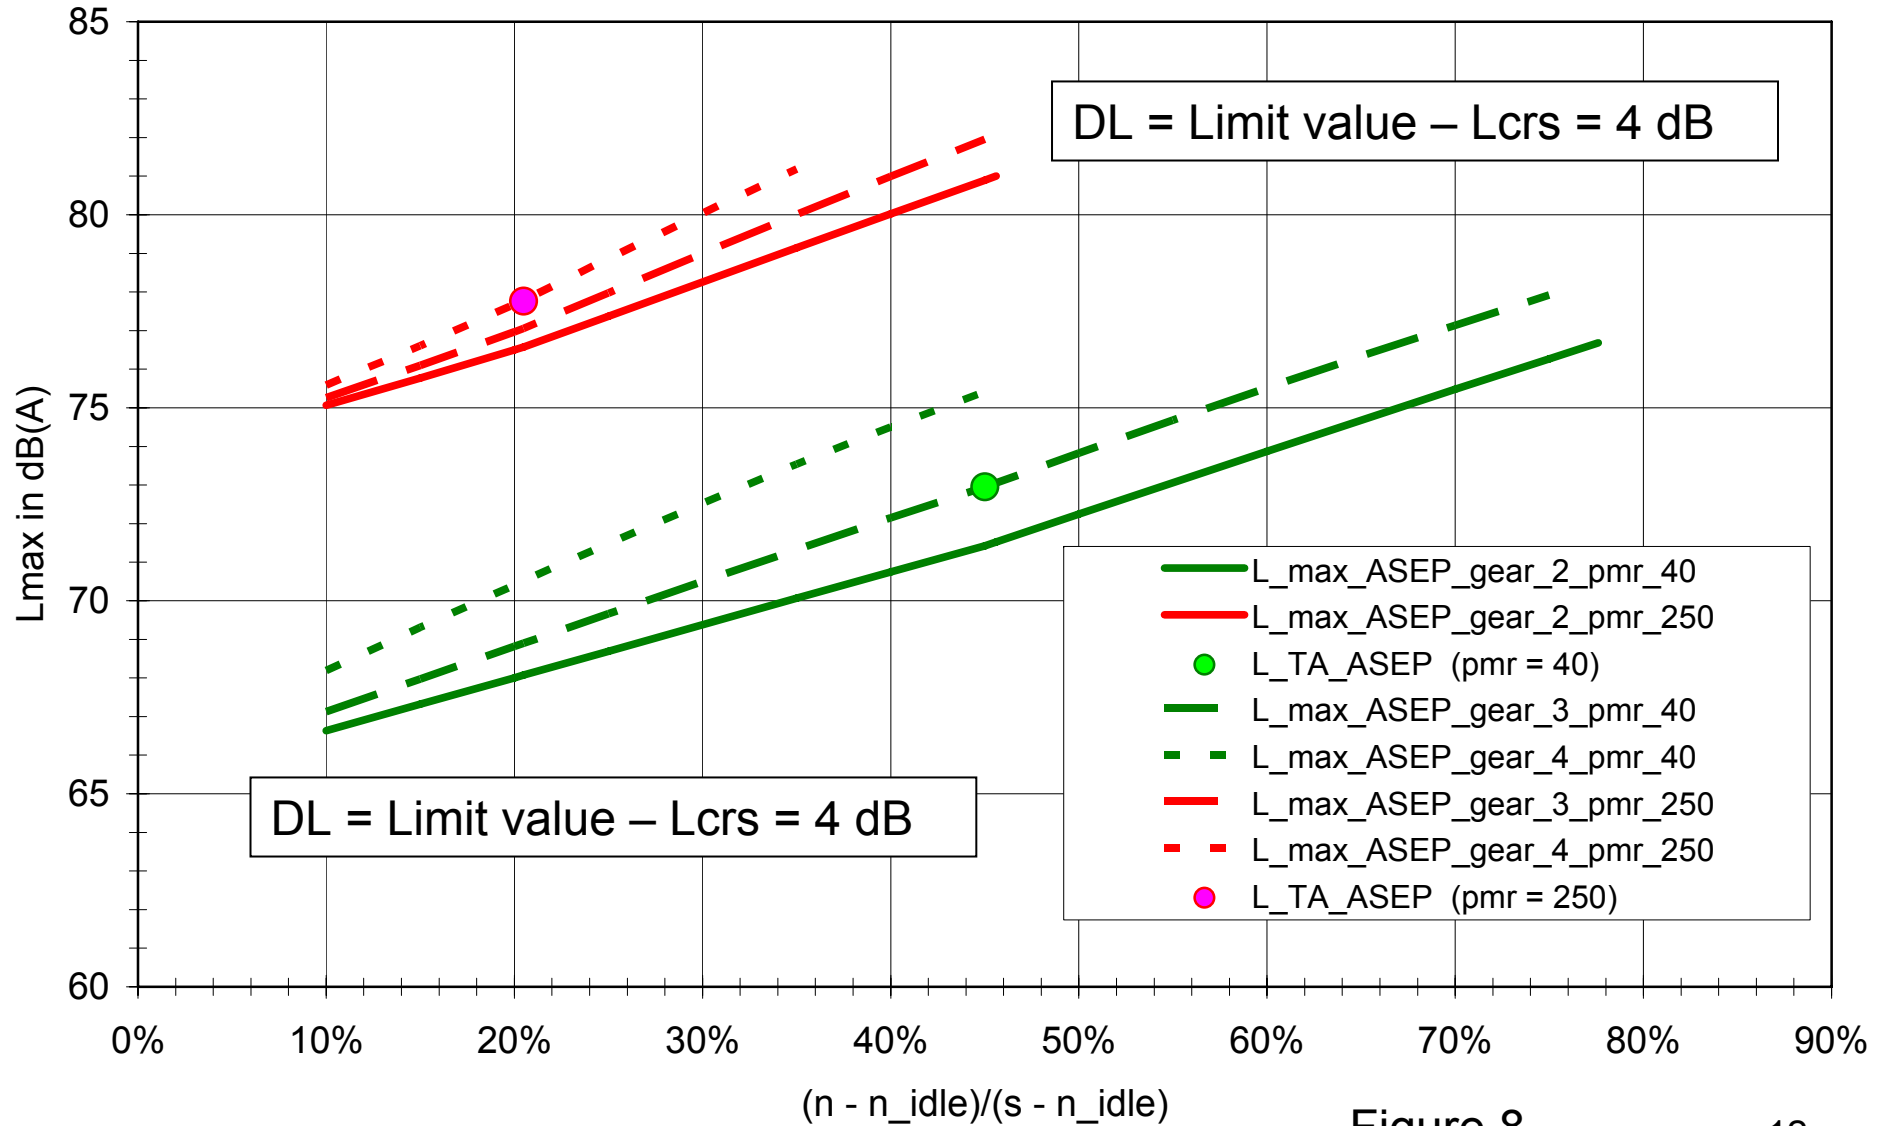

Figure 8
- Examples for  $pmr = 40$  and  $pmr = 250$  are shown in figures 8 and 9.
- A lower  $L_{crs}$  results in higher  $L_{max\_ASEP}$  (compare figures 8 and 10).